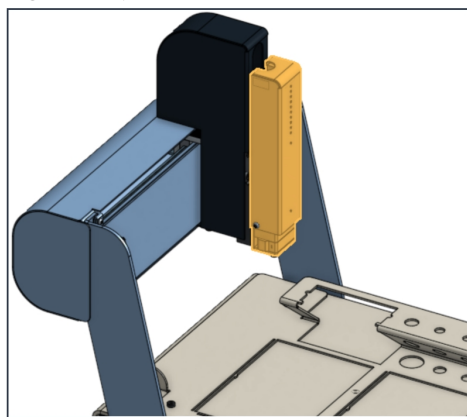
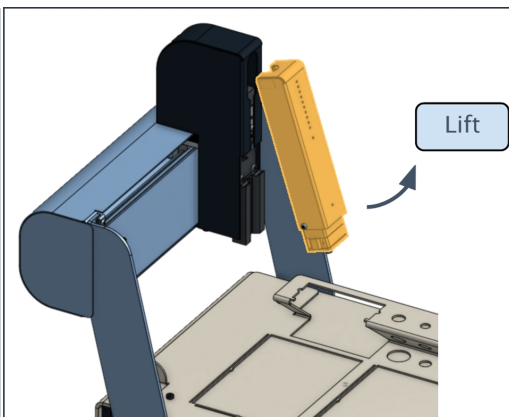

Figure 3.1
Figure 3.2
3. Release the instrument robot head from its magnetic support with one hand (Figure 3.1 and Figure 3.2).